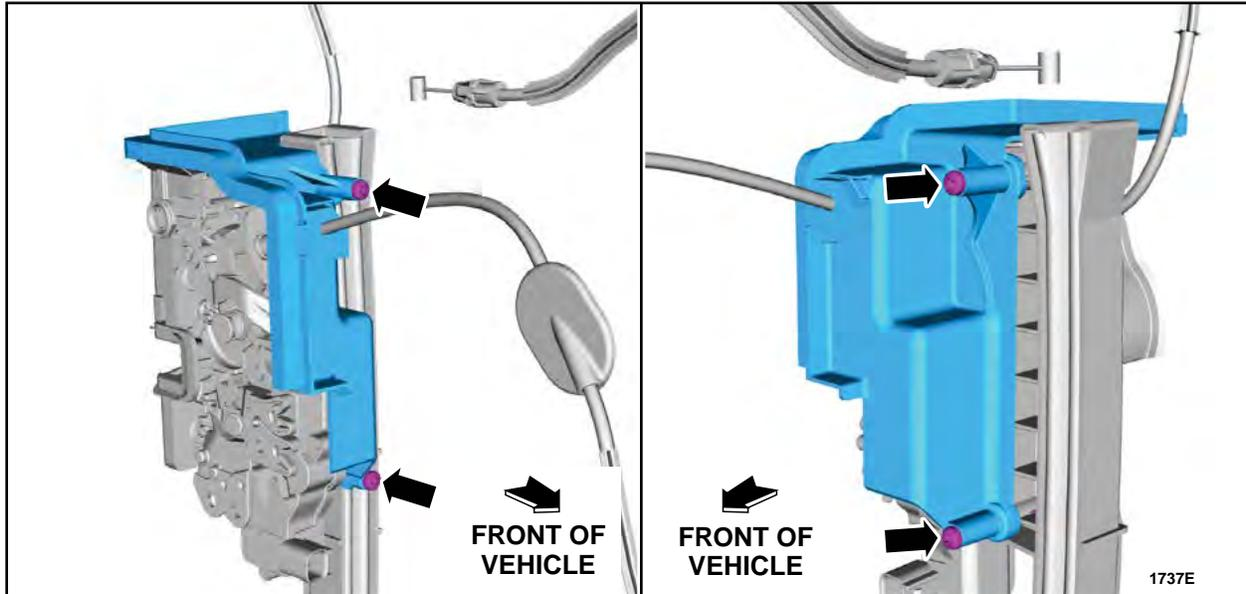

FIGURE 56
5. Install the door latch water shield into position. See Figure 56.
6. Install the *new* screws into the top and bottom holes of the shield. See Figure 56.